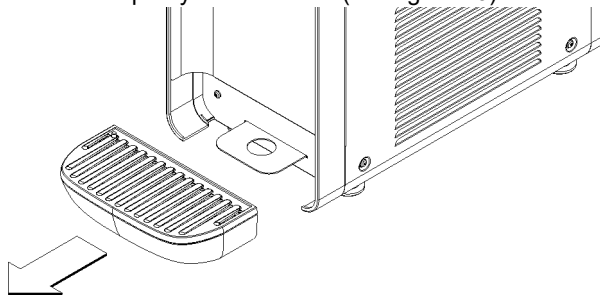

figure 26
**10** Remove the drip tray from its seat. (see figure 26)